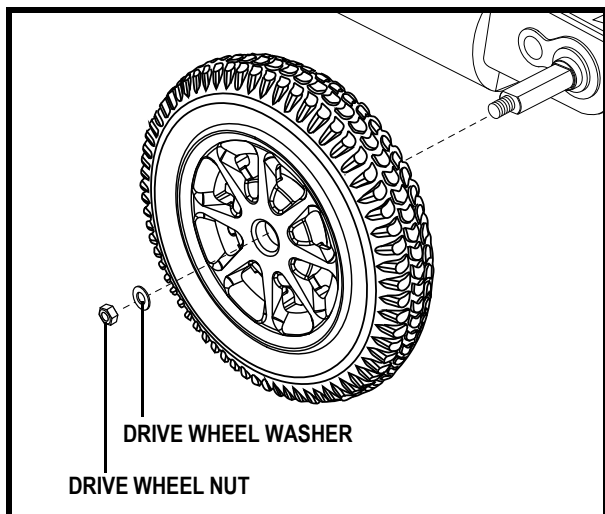

Figure 20. Jazzy 1170XL Plus Series Drive Wheel
4. Remove the drive wheel nut and washer from the axle. See figure 20.